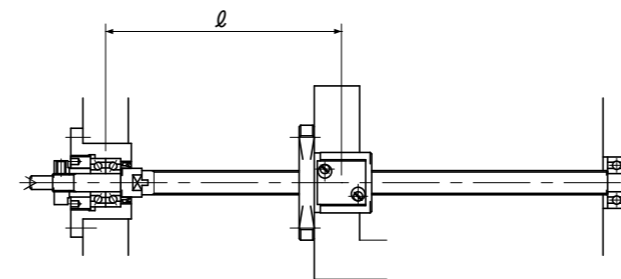

Fig. A-108 : Fixed-Free in axial direction
(1) In case of general mounting (Fixed-Free in axial direction) (Fig. A-108)